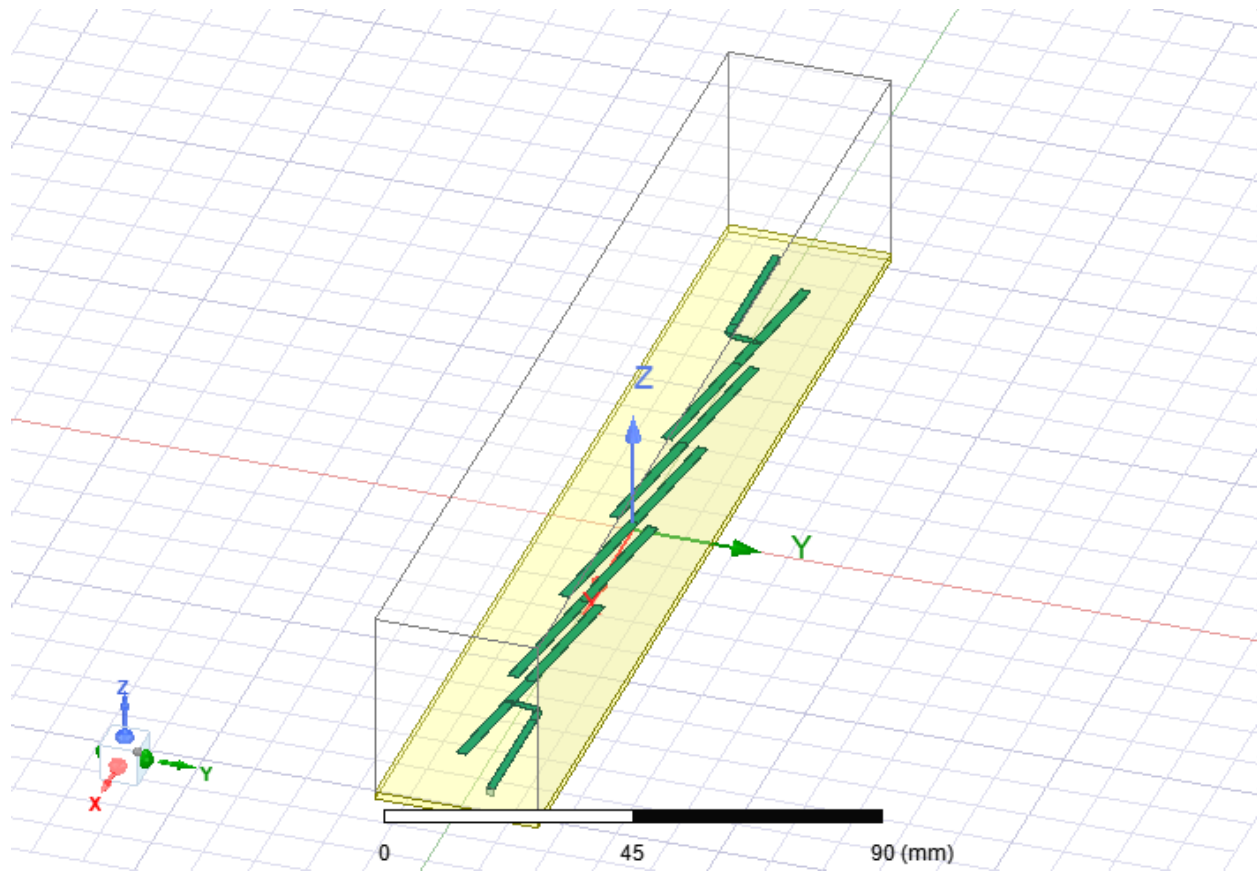

Figure 2: Exported AEDT Circuits Schematic and Layout
The HFSS schematic is populated with all of the necessary substrate and planar element needed to execute an HFSS electromagnetic (EM) simulation and to create a viable layout. For example, a five pole Parallel Edge Coupled design would utilize rectangles, polygons, extents, and boundaries as needed, as shown in Figure 2. Ports, Setup, and Results are all exported with the schematic to enable a valid simulation with good visual esthetics.